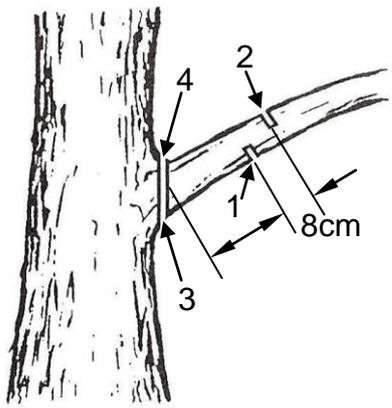

Figure 16
### **REMOVING BRANCHES (Fig.16)**
- Cut a deep notch from below into the branch about 15cm from the trunk (Fig.16 No.1).
- Now cut the branch from above about 5cm further outwards from the lower notch until the branch drops off (Fig.16 No.2).
- In order to remove the remaining stub, cut from below about 1/3 into the remaining branch close to the trunk (Fig.16 No.3).
- Cut into the branch from above until the branch has been removed completely (Fig.16 No.4).
- If cutting in area A (see figure 16), saw up from the bottom one-third and finish by sawing down from the top. If cutting in area B, saw down from the top one-third and finish by sawing up from the bottom.